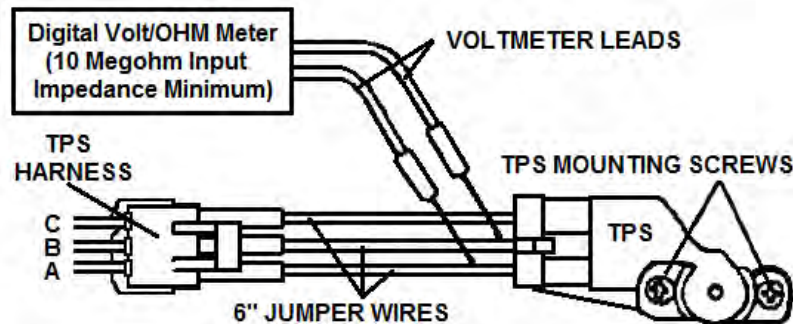

Figure 21: TPS Jumper Installation
1. Disconnect the three-position connector from the TPS and install three jumper wires, as shown in Figure 21.